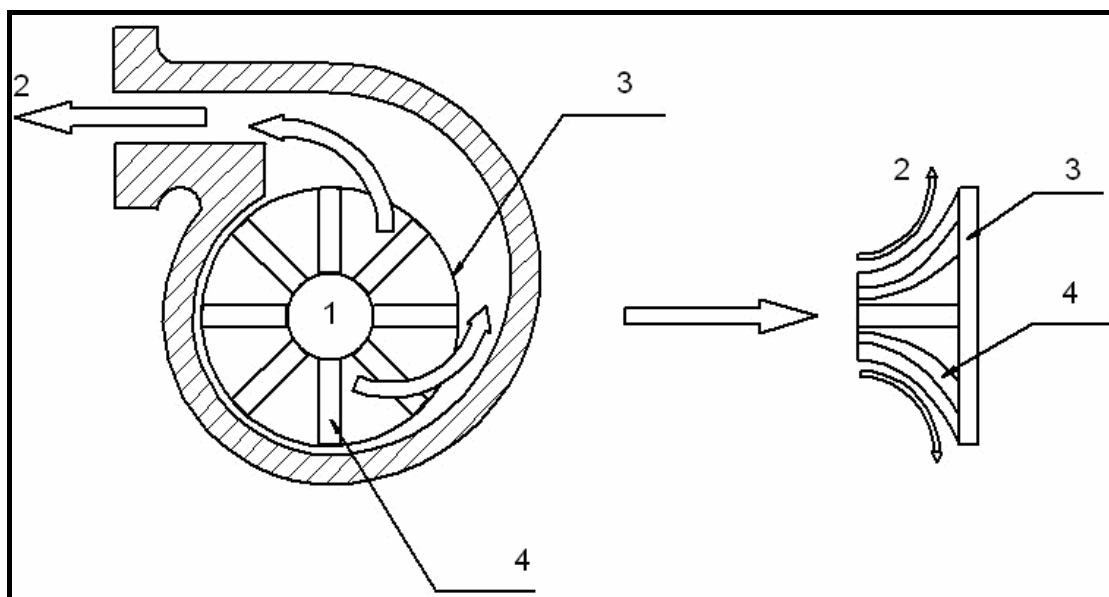

FIGURE 6.1
- 6.5 A friend of yours has decided to increase his car's engine output by fitting a blower. FIGURE 6.1 shows the type of blower that he would like to use.
- 6.5.1 Identify the type of blower illustrated in FIGURE 6.1. (1)